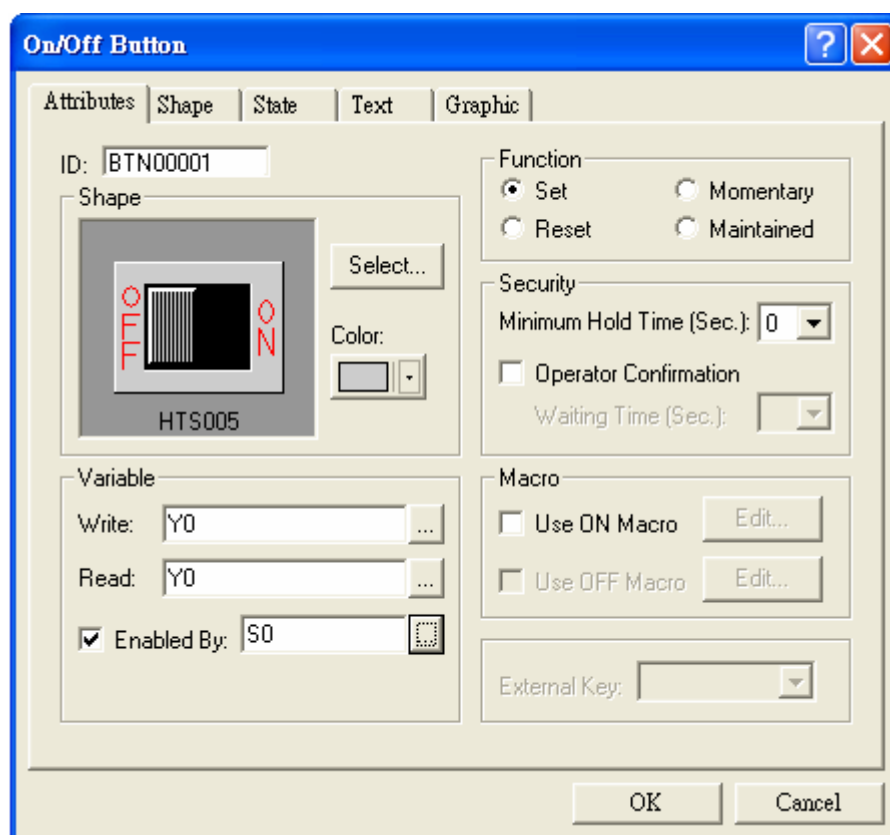

Figure 97. The [On/Off Button] Dialog Box
There are three ways to specify the properties of an object: (1) Users can select [Object Attributes] from the [Edit] menu. (2) Alternatively, double left-click on the object, or (3) right-click on the object and then select [Object Attributes] from the pop-up menu. Above ways will bring up the dialog box for properties specified. The [Set/Reset Button] dialog box as in Figure 97 will be appeared on the screen.
1. [Attributes] Tab: To specify the major properties. Each object has its attributes that define the operation; See Figure 97.